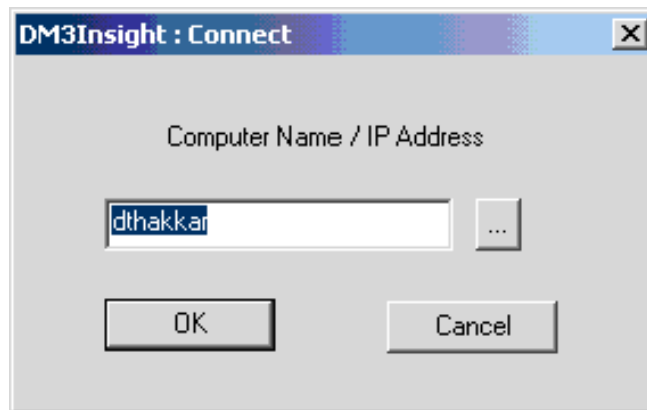

Figure 10. DM3Insight: Connect
- 2.a. From the **System Menu** (click on the **System Menu** icon or press **Alt+Space**), select the **Connect** option. The **DM3Insight: Connect** window appears (Figure 10).
- 2.b. Fill in the name or IP address of the host system (see Figure 10). If you need to browse for the host system, click the button with the three dots to the right of the place in which you type text (Figure 10). The **Browse for Computer** screen appears (Figure 11).